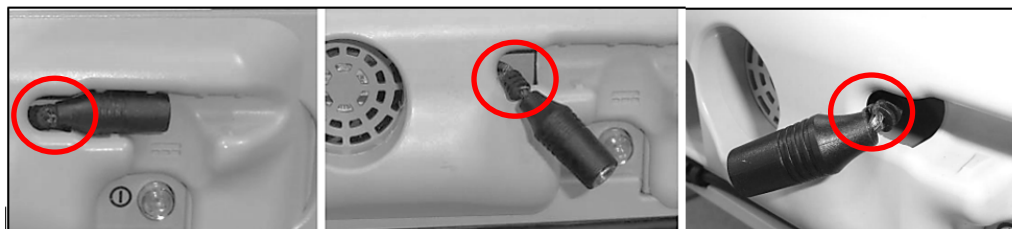

Figure 3 Examples of Damage to the connector plug
- a. Inspect the power connector plug at the back of the PES for any damage. See examples of frayed or damaged cables/cords as shown in Figure 3.